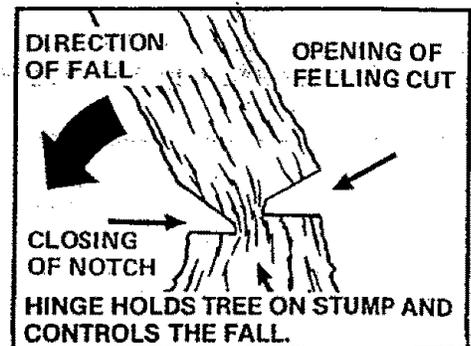

Figure 32
- Leave enough uncut wood between the felling cut and the notch to form a hinge. Figure 32.